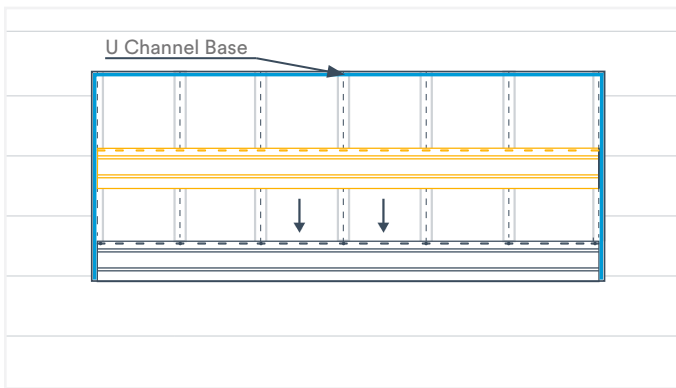

Fig. 17
1. Place a panel on top of the previously installed panel, aligning the ends of both panels (Fig. 17).